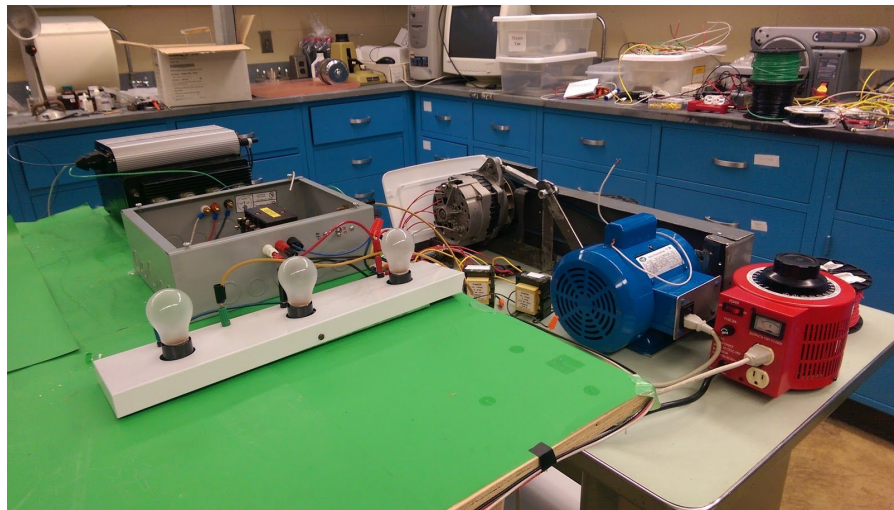

Figure 2- Generator at our disposition for our Senior Design Project.
- Generator (from Dr. Sauer's Village Project- see **Figure 2** below). **(\$0)**